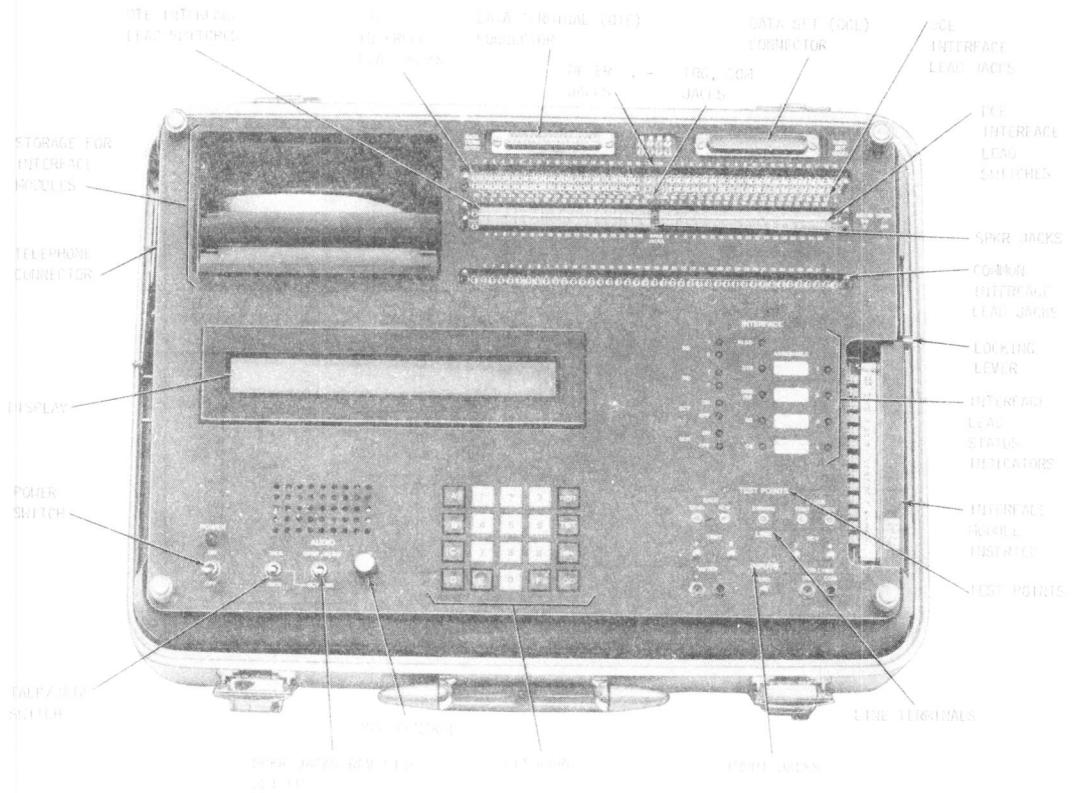

Fig. 1—921A Data Test Set—Front Panel
**1.05** Input to the 921A DTS is made through the 20-button keyboard. The 32-character alphanumeric display provides operator prompting and diagnostic results. Refer to Fig. 1 for the location and nomenclature of connectors, switches, status indicators, input and output jacks, etc, which will be used in the course of testing DS 212A.